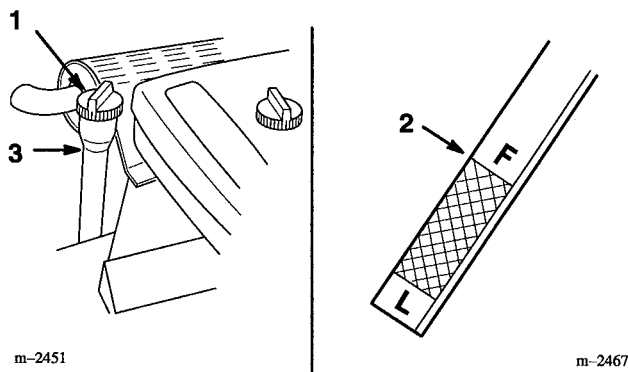

Figure 18
3. Clean around the oil dipstick (Fig. 18) so dirt cannot fall into the filler hole and damage the engine.
4. Unscrew the oil dipstick, pull out and wipe the metal end clean (Fig. 18).
5. Slide the oil dipstick fully into the filler tube and thread on securely (Fig. 18). Unscrew and pull dipstick out and look at the metal end. If oil level is low, slowly pour only enough oil into the filler tube to raise the level to the "FULL" mark.
6. Slowly pour approximately 80% of the specified amount of oil into the filler tube (Fig. 18). Now check the oil level; refer to Checking Oil Level, page 21. Slowly add additional oil to bring to "FULL" mark on dipstick.